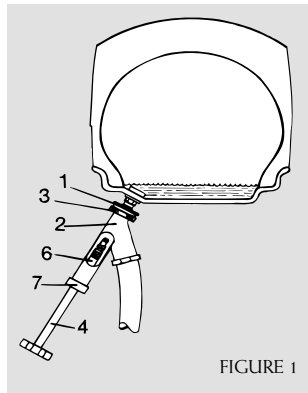

FIGURE 1
The following connections should be made when the pump is not running and with the control handle in the vertical or check position: To connect liquid fill core ejector to two-piece style rear tractor valves TR-218A, TR-618A, (figure 1), unscrew union (1) from core ejector body (2) screw on valve stem finger tight. Screw core ejector body on union (1) making sure rubber gasket (3) is in place, with handle (4) of core ejector pulled out. Push handle (4) of core ejector in until it makes contact with the core housing of the valve, then hold the core ejector in left hand, strike the handle (4) with the right hand to force the core housing in ejector chuck (6). Turn handle (4) to the left to unscrew the core housing, pushing inward lightly so you can feel the threads disengage when completely unscrewed. Then pull handle (4) out as far as it will go to retract core housing into ejector